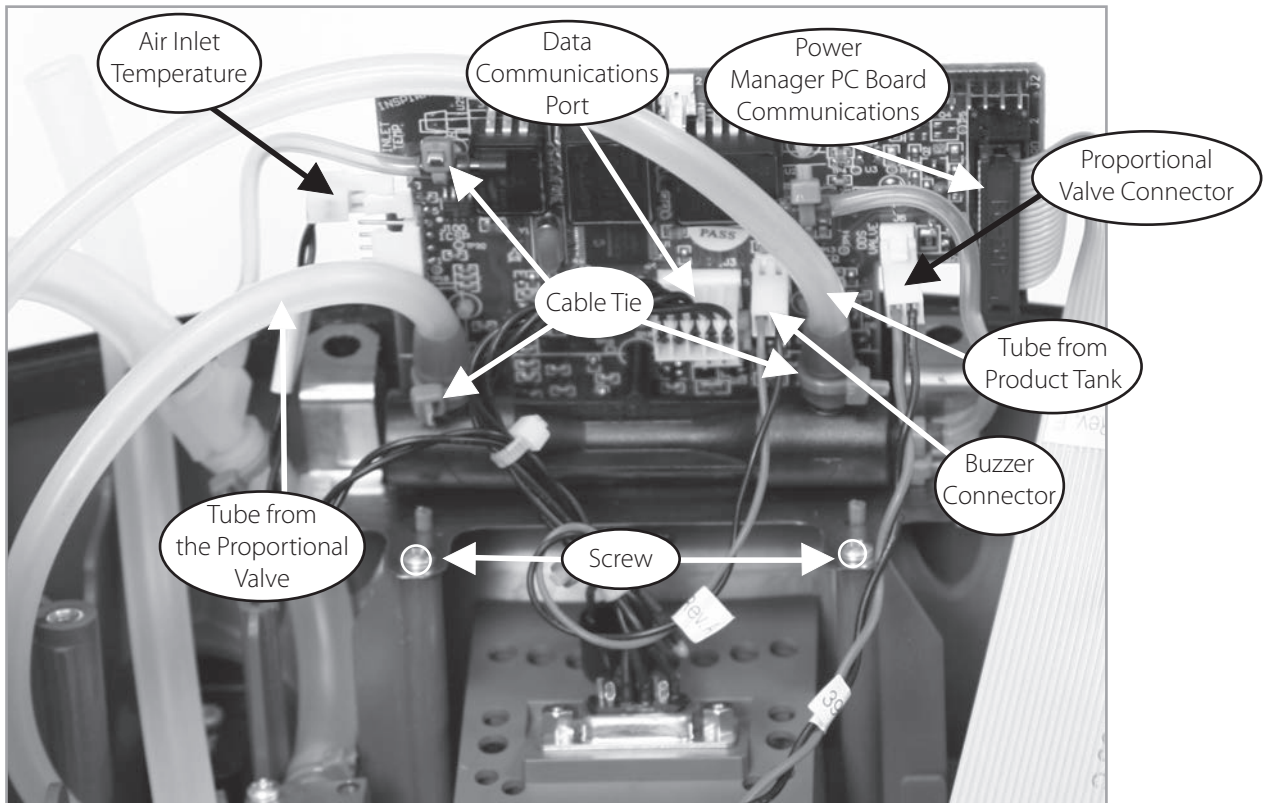
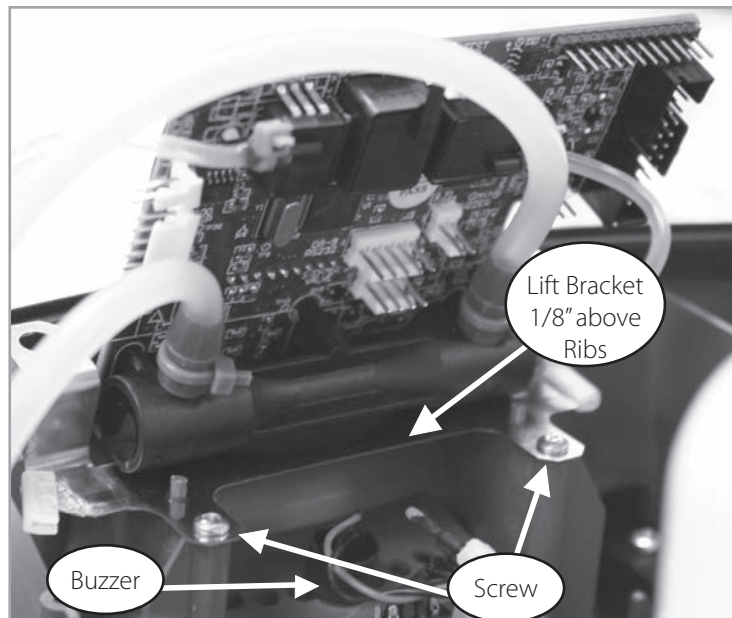

Figure 42: Control Board Removal (ATF Module not shown for clarity).
Figure 43: Control Board Installation.
2. Remove the 2 screws (M3x10 Plastite Screw, P/N 6950-310-SEQ) holding the Control Board Assembly to the Unit Case as shown in Figure 42.
3. Lift the Control Board Assembly and disconnect the Inlet Air Temperature, Data Communications Port, Power Manager PC Board Communications, Proportional Valve wire harness, and Buzzer wire harnesses as shown in Figure 42.
4. Lift the Control Board out of the Unit. Cut the green cable tie to the silicone tube that is connected to the sensor as shown in Figure 42. Disconnect the silicone tube that is attached to the sensor. Cut the green cable ties to the silicone tubes that are connected to the flow tube as shown in Figure 42. Disconnect the silicone tubes that are attached to the flow tube.
7. To install a new Control Board Assembly, cut the cable tie used to pinch the silicone tube coming from the product tank. Attach this tube and the tubes from the Proportional Valve and from the Product Tank to the flow tube as shown in Figure 42. Secure with a cable tie. Connect the silicone tube to the sensor as shown in Figure 42. Secure with a cable tie. Place the 2 screws in the sheet metal bracket as shown in Figure 43. Inspect the tubing to ensure the tubing is not kinked.
8. Lower the Control Board Assembly into the Unit Case only to where the aligning pins go through the sheet metal bracket; make sure the sheet metal bracket is 1/8" above the supporting ribs – this will ensure the 2 screws stay in the bracket and do not fall in the unit case as shown in Figure 43. Start the 2 screws by turning them 2 times into the unit case. After starting both screws, lower the Control Board Assembly onto the supporting ribs; tighten the 2 screws to the unit case.
9. Connect the Inlet Air Temperature, Data Communications Port, Power Manager PC Board Communications, Proportional Valve wire harness and Buzzer wire harnesses as shown on Figure 42.